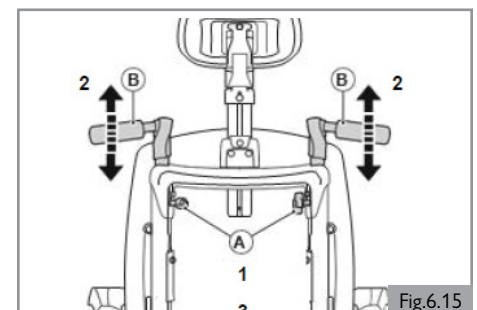

Fig.6.15
6.9 Push handle height (Fig. 6.15)